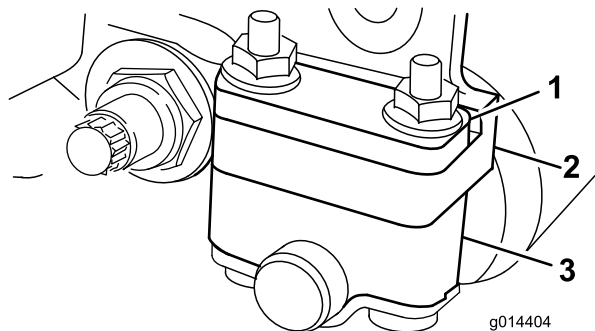
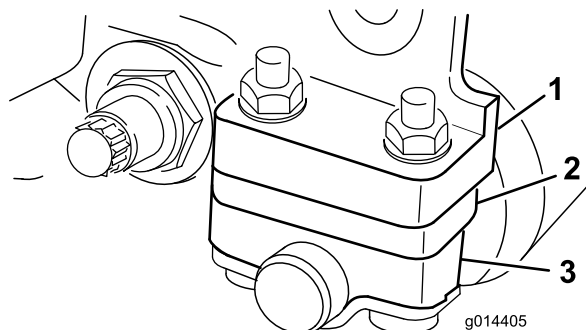

Figure 6
Figure 7
1. Adjust the rear roller brackets (Figure 6 or Figure 7) to the low or high position depending on the desired height of cut range.
Position the spacer above the sideplate mounting flange (factory setting) when height of cut settings range from 1.6 to 6 mm (1/16 to 1/4 inch) (Figure 6).
Position the spacer below the sideplate mounting flange when height of cut settings range from 3 to 25 mm (1/8 to 1 inch) (Figure 7).